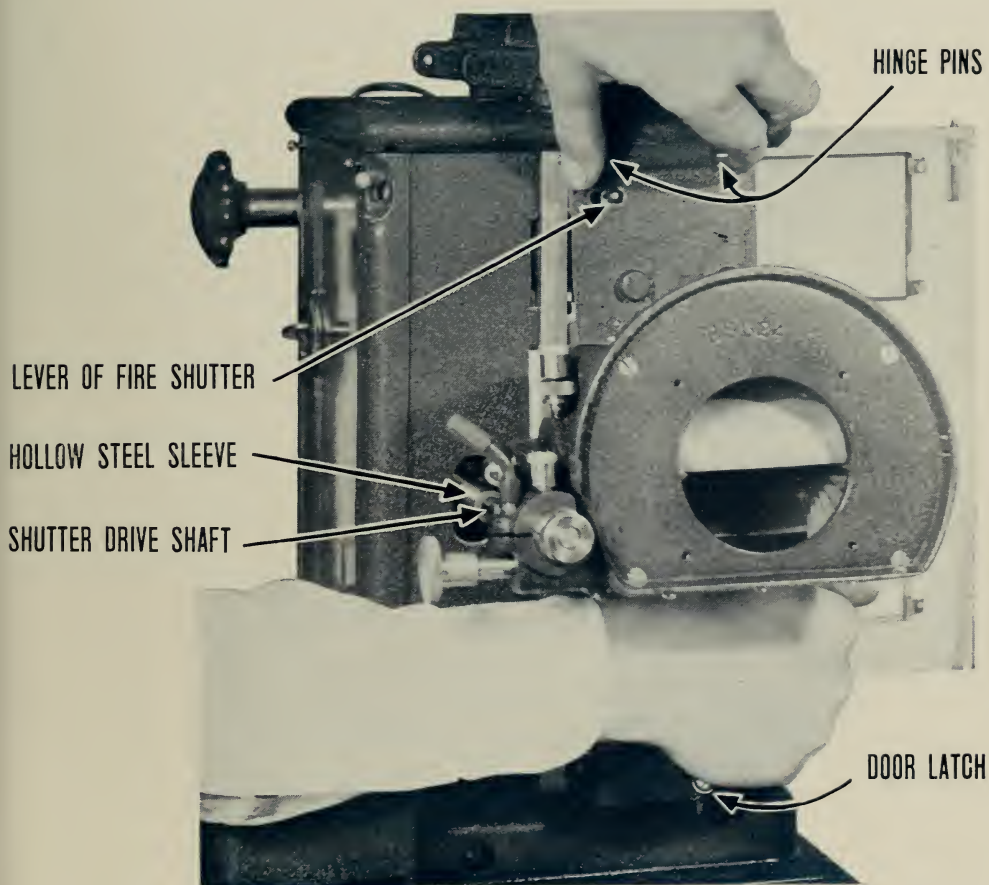

Fig. 13. Removing the shutter assembly
the shutter assembly, any such removal is accomplished in the following manner (see Fig. 13):
4. Pull the shutter drive shaft out of its hollow sleeve (Fig. 13). To remove the shutter housing from the gate, take out the four screws in the inside corners of the shutter housing which attach the housing